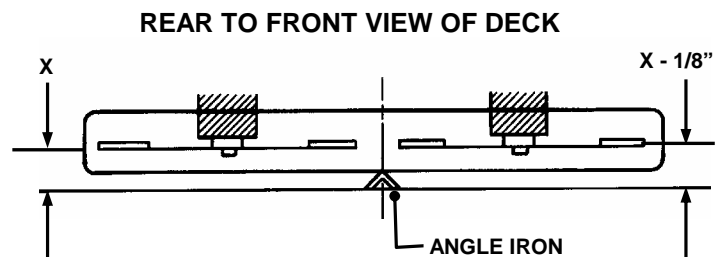

FIGURE 4.2
- e. Measure the distance from blade tips to floor. If the measurement is within 1/8" from side-to-side, the deck levelness is satisfactory. If the difference from side-to-side is greater than 1/8", an adjustment will have to be made. See Figure 4.2.